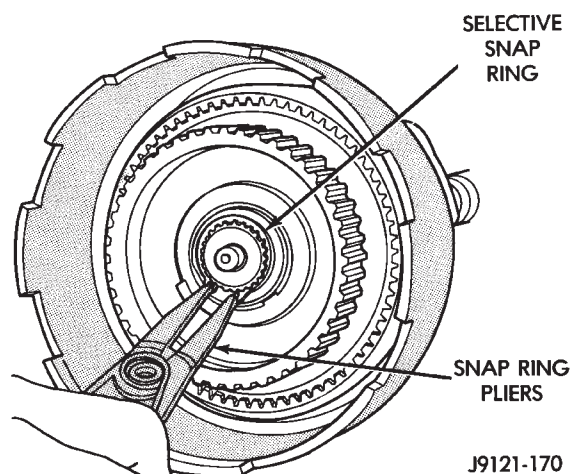
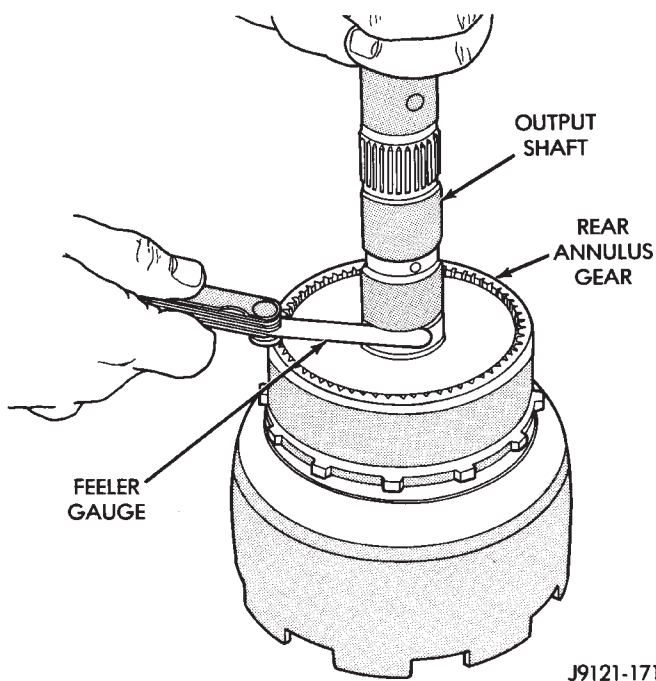

Fig. 84 Installing Planetary Selective Snap Ring (42RH)
Fig. 85 Checking Planetary Geartrain End Play (42RH)
(22) Install planetary selective snap ring with snap ring pliers (Fig. 84). Be sure ring is fully seated.
(23) Turn planetary geartrain assembly over so driving shell is facing workbench. Then support geartrain on wood block positioned under forward end of intermediate shaft. This is necessary so geartrain components will move forward for accurate end play check.
(24) Check planetary geartrain end play with feeler gauge (Fig. 85). Gauge goes between shoulder on intermediate shaft and end of rear annulus support.
(25) Geartrain end play should be 0.12 to 1.22 mm (0.005 to 0.048 in.). If end play is incorrect, snap ring